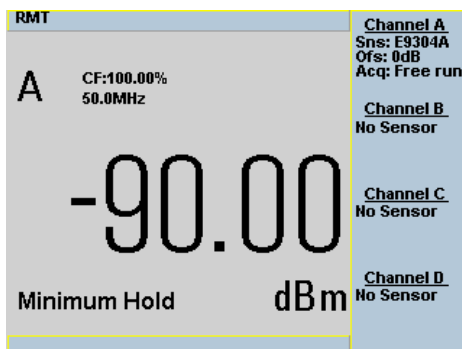

Figure 2-34 Measurement mode in full word
- 6 Press  to display the measurement window in full screen mode. The measurement mode will be indicated in full word in the expanded window (see Figure 2-34).